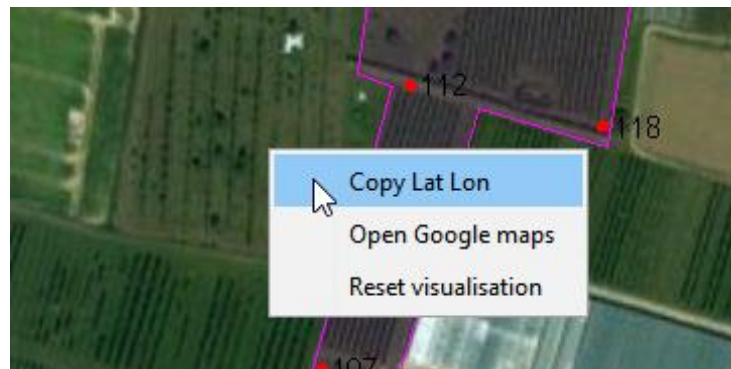

Figure 18: Mission data GUI - map controls
- **Right click** (Figure 18):